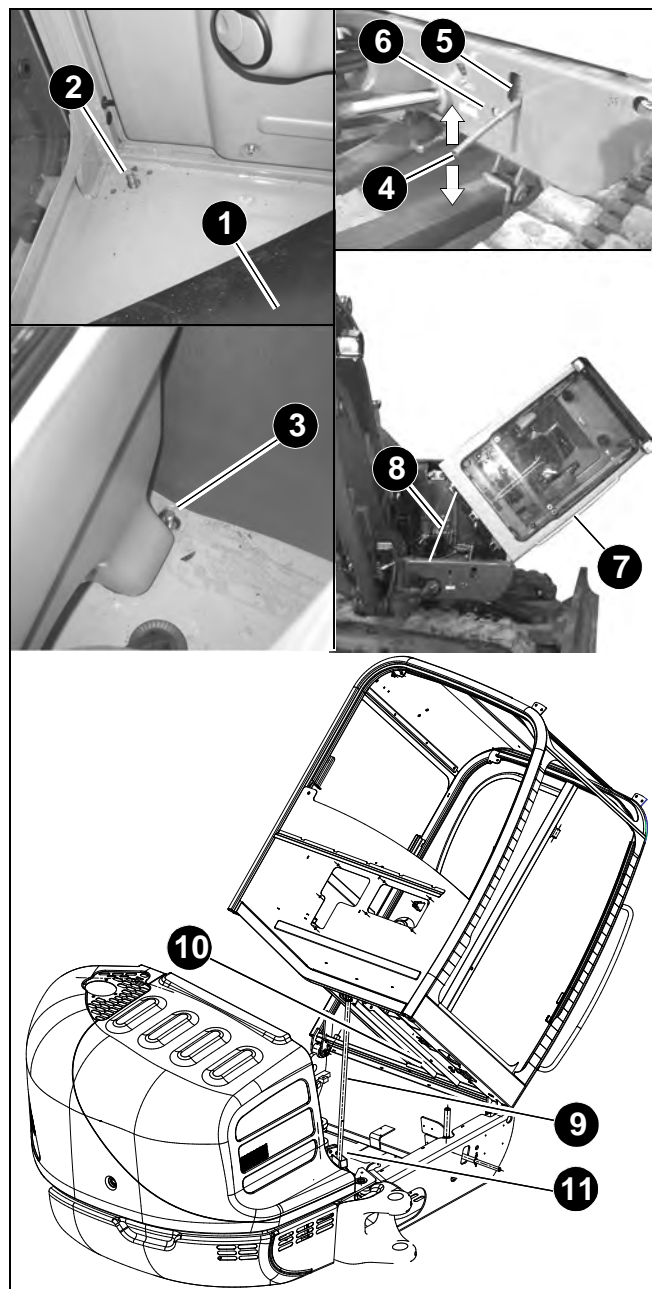

Figure 3-12 Tilting the Cab
Refer to items 1—10 in Figure 3-12 to safely complete the following procedure.
Located on the lower left side of the chassis, under the cab, is the SAE/ISO selector valve. See (1), Figure 3-12. The SAE/ISO valve can be accessed through a cut-out on the left side of the chassis at location (2). The machine has been set at the factory for SAE standard operation shown at position (3). If ISO operation is desired, loosen wing nut (5) and rotate valve to position (4) and tighten wing nut (5). If the machine does not function according to the decals and instructions in this manual, move the selector valve to the other position.